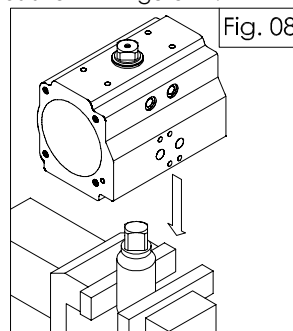

Fig. 08
B) Pistons assembly (Part NO.07) , figure 08,09,10 and 11:
- Install piston O-rings (13), the piston skirt (14) and piston head (12) bearings.
- Grease the internal surface of the body (06) and the piston (07) rack teeth.
- Hold the body (06) in a horizontal position by inserting the top of the shaft into a vice or the bottom of the shaft connection into a male drive fitted in a vice as shown in figure 08.